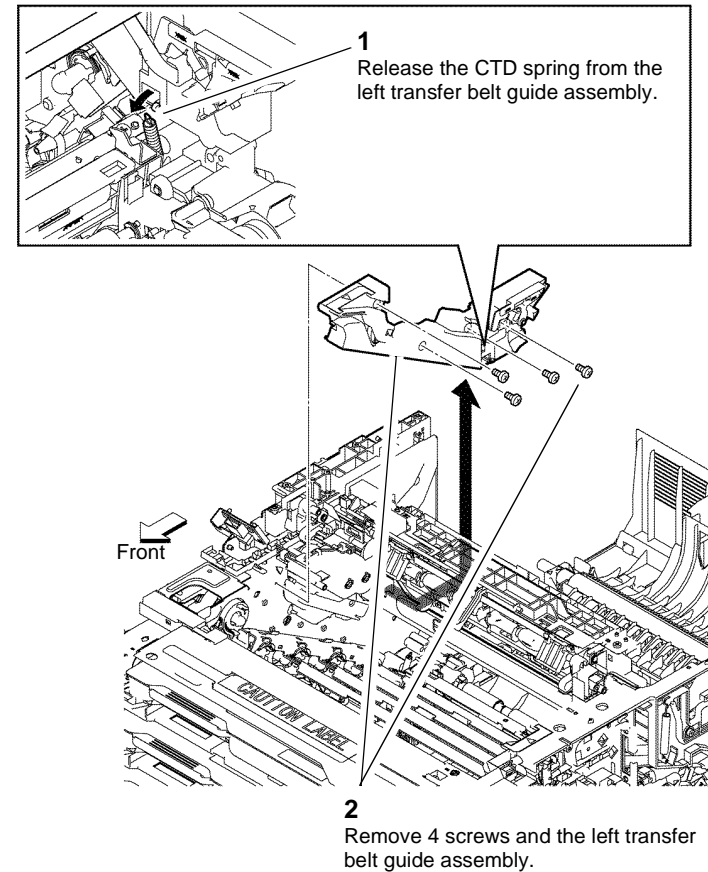

Figure 1 Left transfer belt guide assembly
3. Remove the left transfer belt guide assembly, Figure 1.